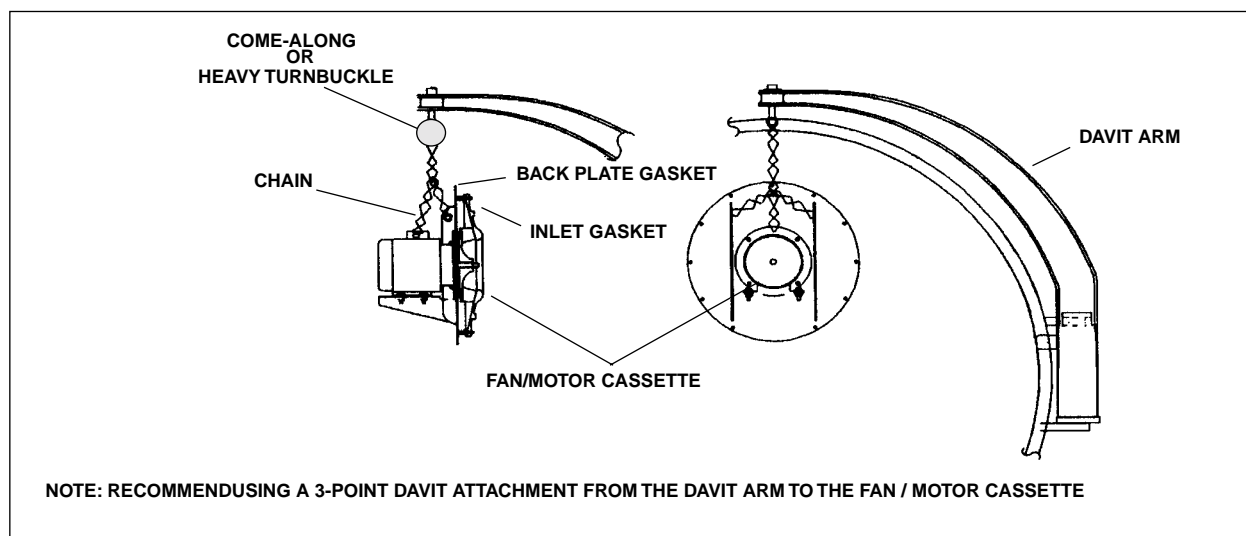

Figure 8-8: Fan/Motor Cassette
4. Connect the davit arm to the fan/motor cassette using the suspension system diagramed in figure 8-8.